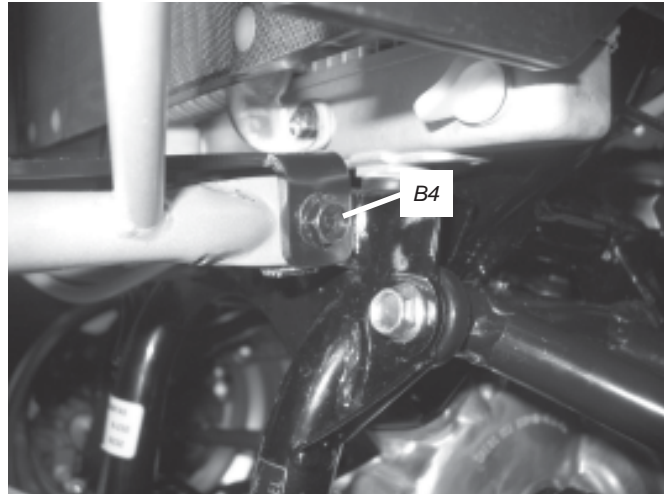

Figure 10 Install New Supplied 8mm Bolts
11. Install the supplied 8mm-1.25 x 25mm bolts (B4), figure 10, into the middle bumper mounting location, step 6. Do not tighten at this time.